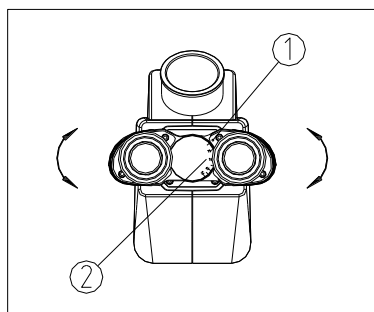

Fig. 17
The dot “.” ① on the eyepiece base points to the interpupillary distance indicator scale ②. The number is the interpupillary distance. (See Fig.17)